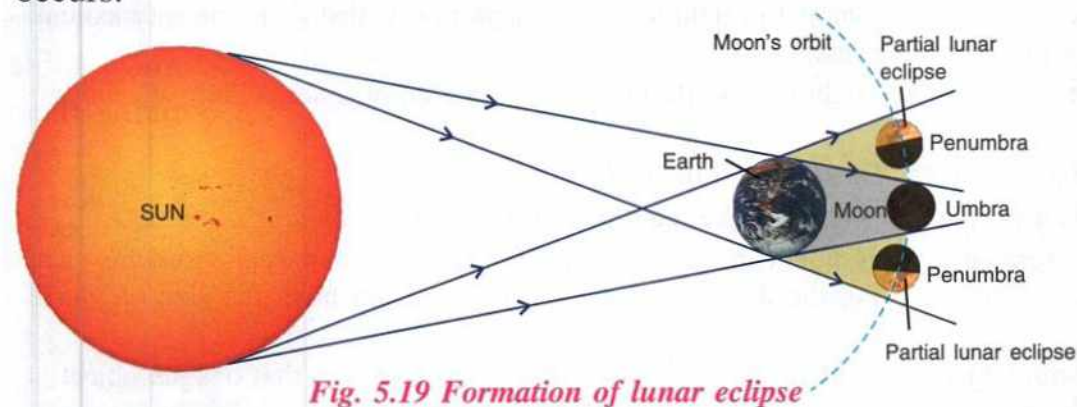

Fig. 5.19 Formation of lunar eclipse
1. Lunar eclipse : On a certain full moon night, when the earth comes in between the sun and the moon, the earth casts its shadow on the moon. The part of the moon which lies within the umbra of earth, will not be visible from the earth. Thus, the lunar eclipse takes place (Fig. 5.19).